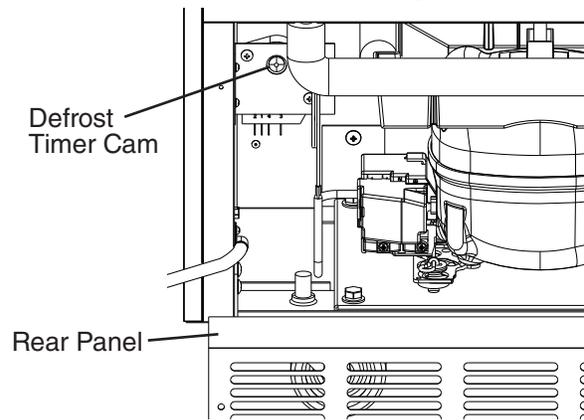

Fig. 18
- 1) Make sure the appliance is unplugged, then remove the rear panel. See Fig. 18.